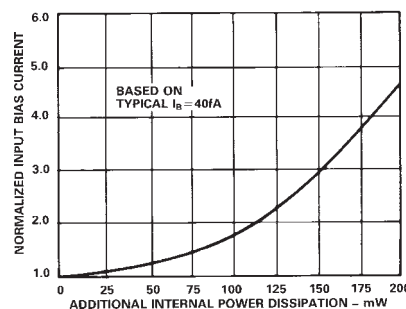

Figure 9. Input Bias Current vs. Additional Power Dissipation
- Output loading effects, which are normally ignored, can cause a significant increase in chip temperature and therefore bias current. For example, a  $2\text{ k}\Omega$  load driven at 10 V at the output will cause at least an additional 25 mW dissipation in the output stage (and some in other stages) over the typical 24 mW, thereby at least doubling the effects of self-heating. The results of this form of additional power dissipation are demonstrated in Figure 9, which shows normalized input bias current versus additional power dissipated. Therefore, although many dc performance parameters are specified driving a  $2\text{ k}\Omega$  load, to reduce this additional dissipation, we recommend restricting the load resistance to be at least  $10\text{ k}\Omega$ .